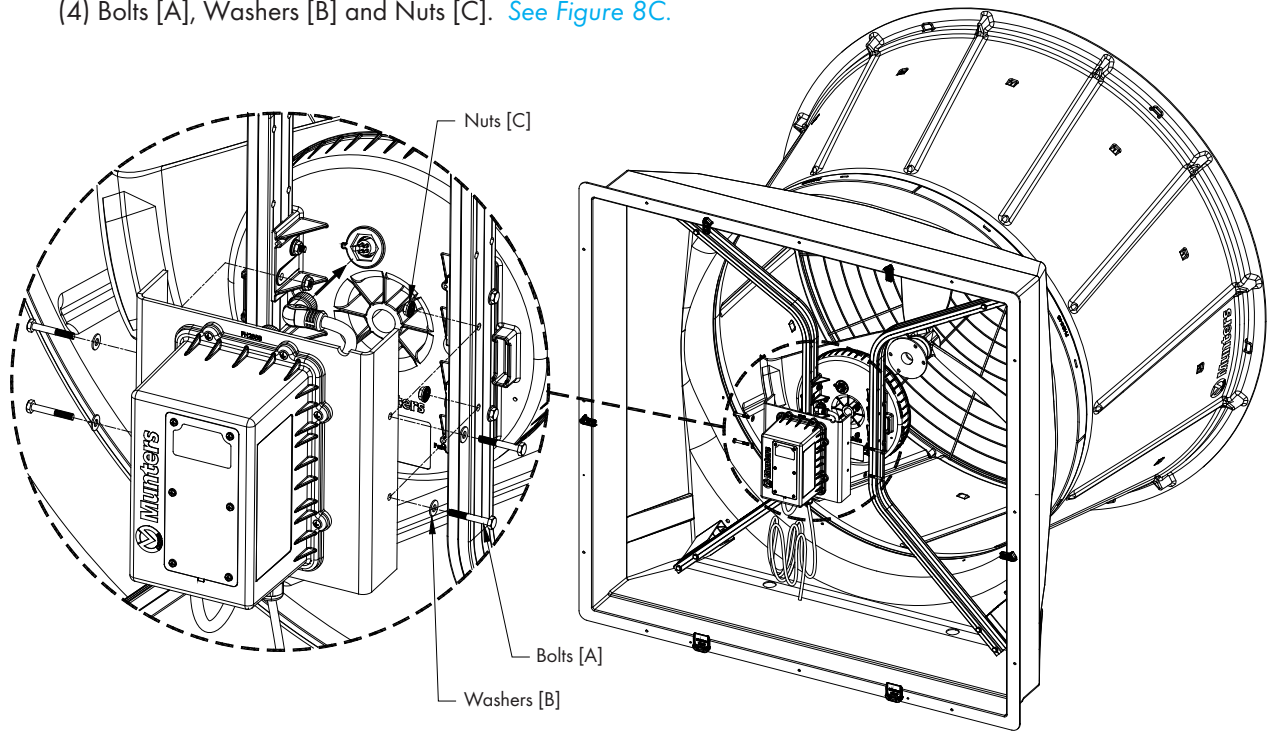

Figure 8C
Reconnect the quick connect connector to the motor, replace the Munters Drive controller over the struts so that the 2 holes in each strut line up with the holes in each side of the controller bracket and fasten with (4) Bolts [A], Washers [B] and Nuts [C]. See Figure 8C.